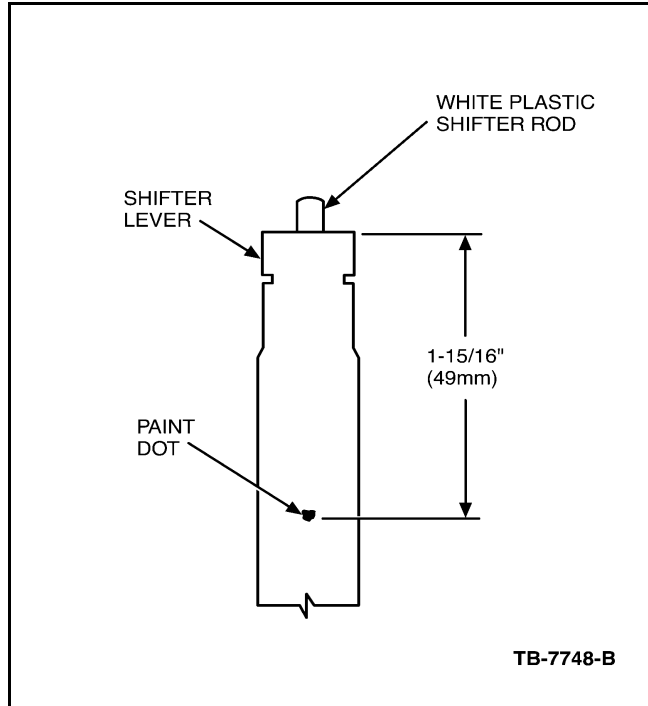

Figure 1 - Article 03-24-3
7. Using a flat scale, measure 49mm (1 15/16") from the top edge of the selector shaft as shown in (Figure 1). Mark on the front face of the selector shaft a small paint dot to indicate the proper position (depth), for reinstallation of the knob.